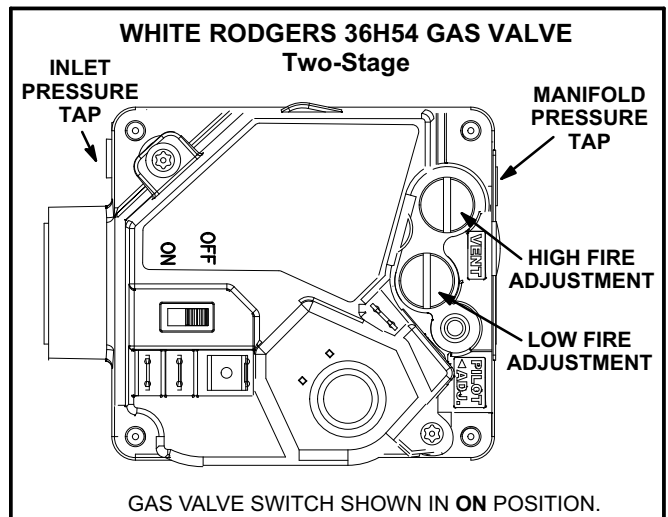
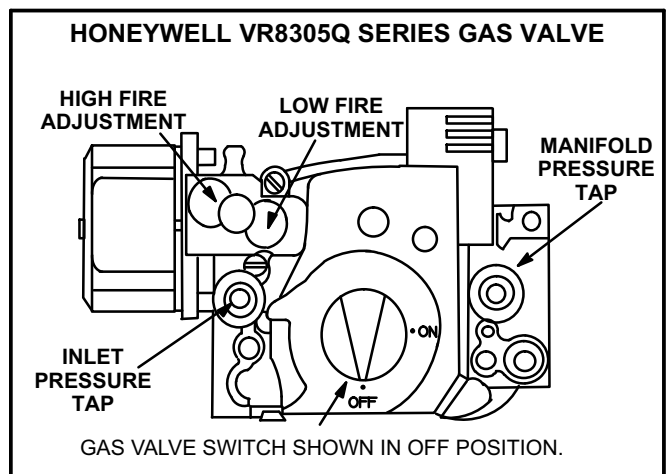

FIGURE 17
FIGURE 18
Gas Valve Operation for Honeywell VR8305Q or White Rodgers 36H54 (figure 17 or 18)
- 5- Turn gas valve switch to **OFF**. See figure 17. On Honeywell VR8305Q gas valves, turn the knob on the gas valve clockwise  to “**OFF**”. Do not force. See figure 18.
- 6- Wait five (5) minutes to clear out any gas. If you then smell gas, **STOP!** Immediately call your gas supplier from a neighbor's phone. Follow the gas supplier's instructions. If you do not smell gas, go to the next step.
- 7- Turn gas valve switch to **ON**. See figure 17. On Honeywell VR8305Q gas valves, turn the knob on the gas valve counterclockwise  to “**ON**”. Do not force. See figure 18.